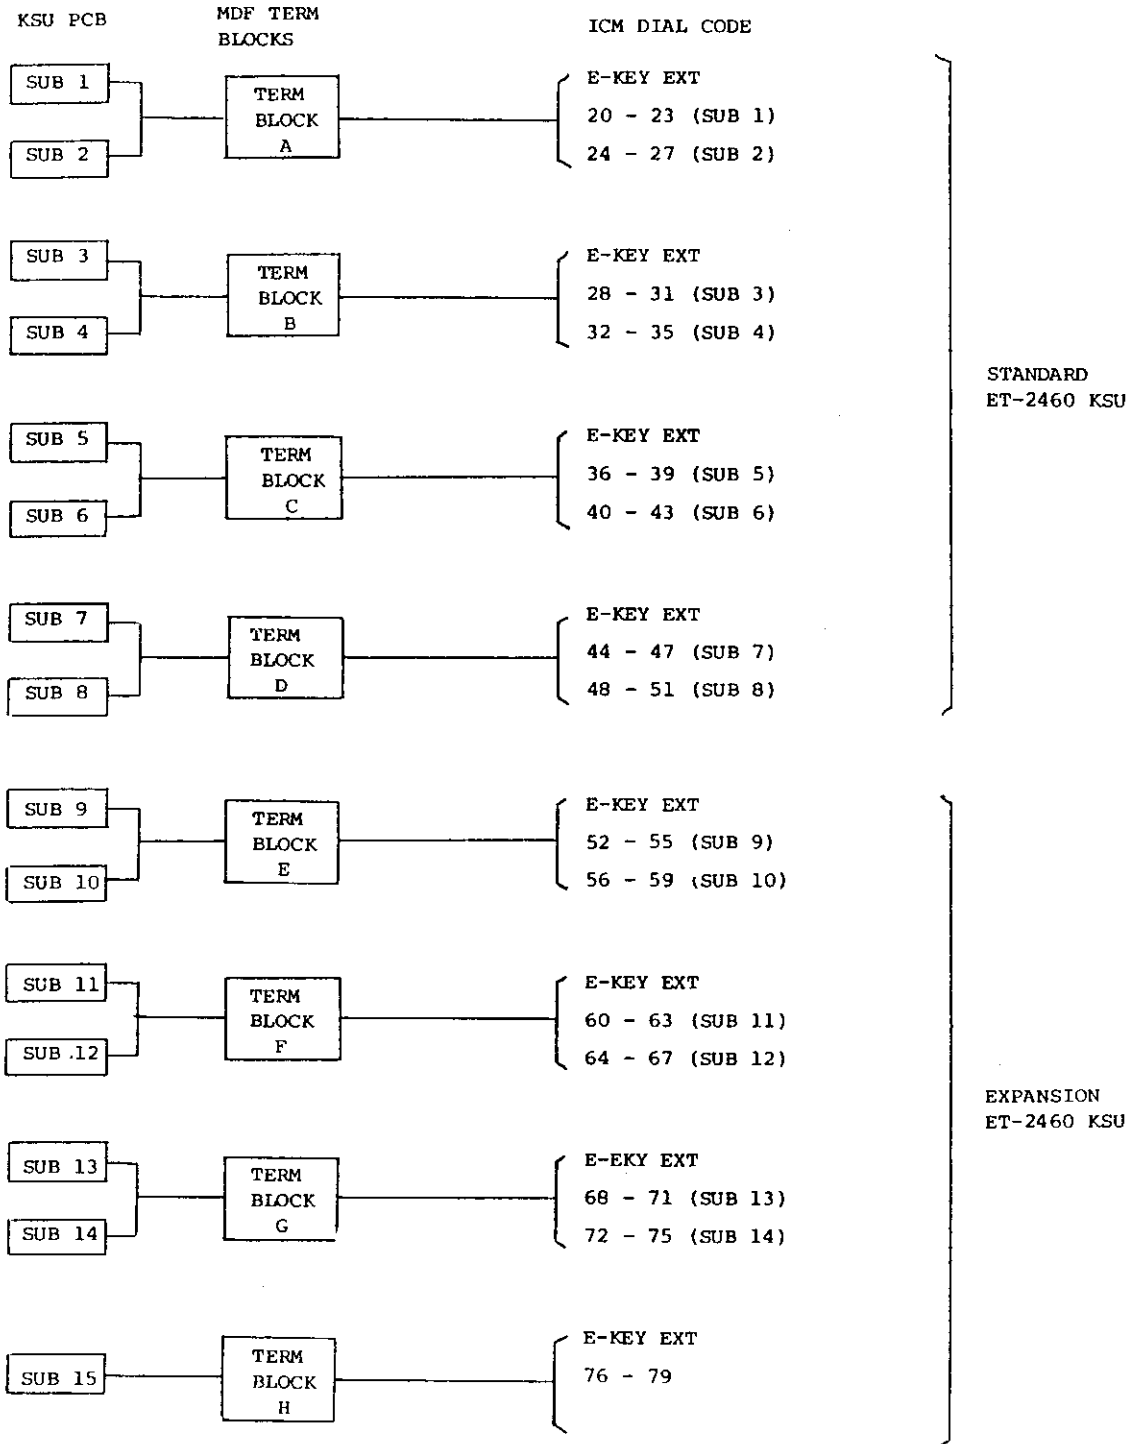

FIGURE 41 MDF Terminal Block Assignment
The E-KEY station Intercom dial code number is assigned by connection of the six station conductors to the dial code number appearing on KSU terminal blocks A through H at the MDF. FIGURE 41 illustrates the KSU MDF terminal block assignments for the Intercom dial codes.
- (1) Remove the station directory and 6-pin modular drop cord from the E-KEY station.
- (2) Using the wall-mount plate as a template, attach to the wall surface the screws that will hold the wall-mount plate. Utilize the keyhole slots that will allow removal of the wall-mount plate.
- (3) Insert the wall-mount plate into the base of the E-KEY station housing as illustrated in FIGURE 41. Holding the mounting plate at an angle, insert the two top tabs of the plate into the holes on the E-KEY telephone base. Then insert the bottom tab into the slot on the E-KEY station base.
- (4) Insert the station directory tray in the directory slide at the top of the station.
- (5) Run the station drop cord in between the bottom of station and the mounting plate, and insert it into the station jack.
- (6) Attach the unit to the wall using the keyholes on the mounting plate.
- (7) Attach the wall-mount cup to the station by applying pressure and inserting the cup into the two holes provided on the handset cradle just above the hookswitch.